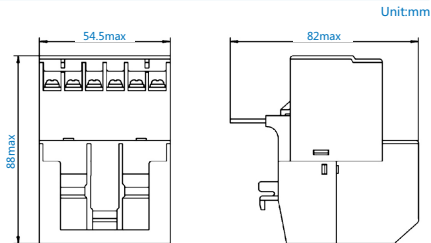

Figure 1 Outline and Installation Size of the Protector
3.1 Outline and installation size: see Fig. 1